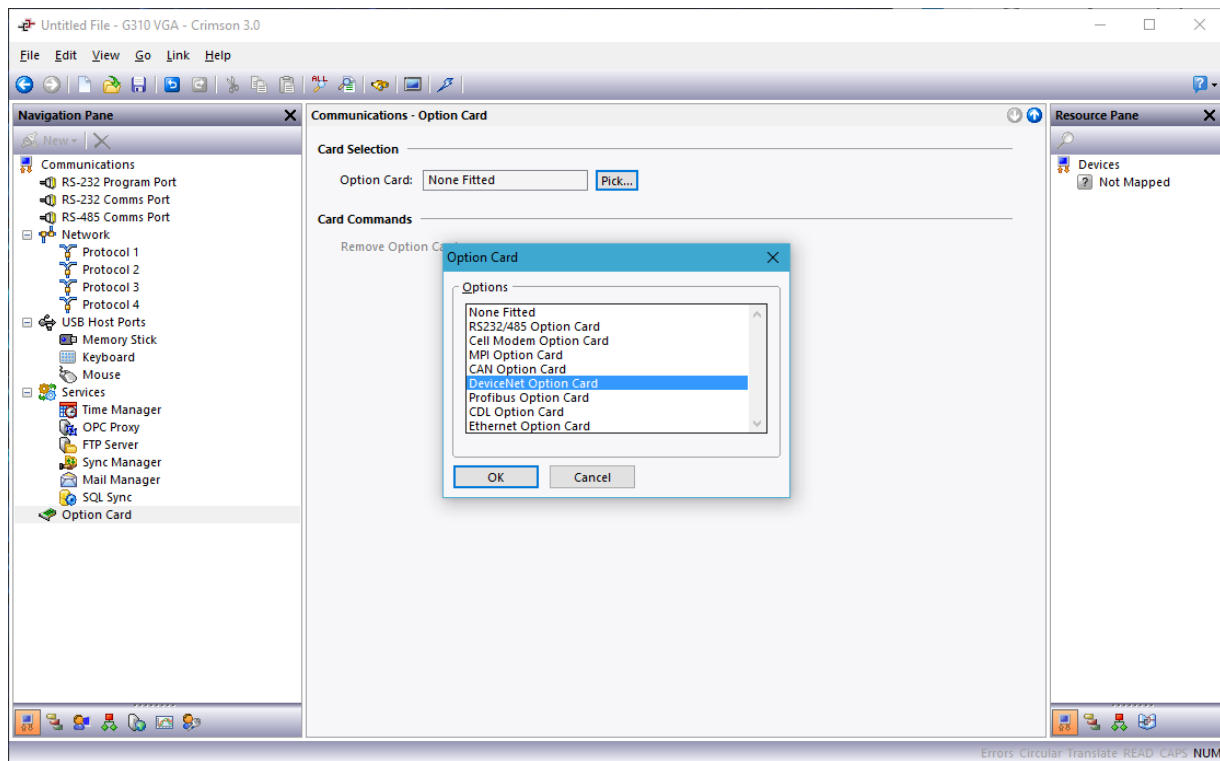
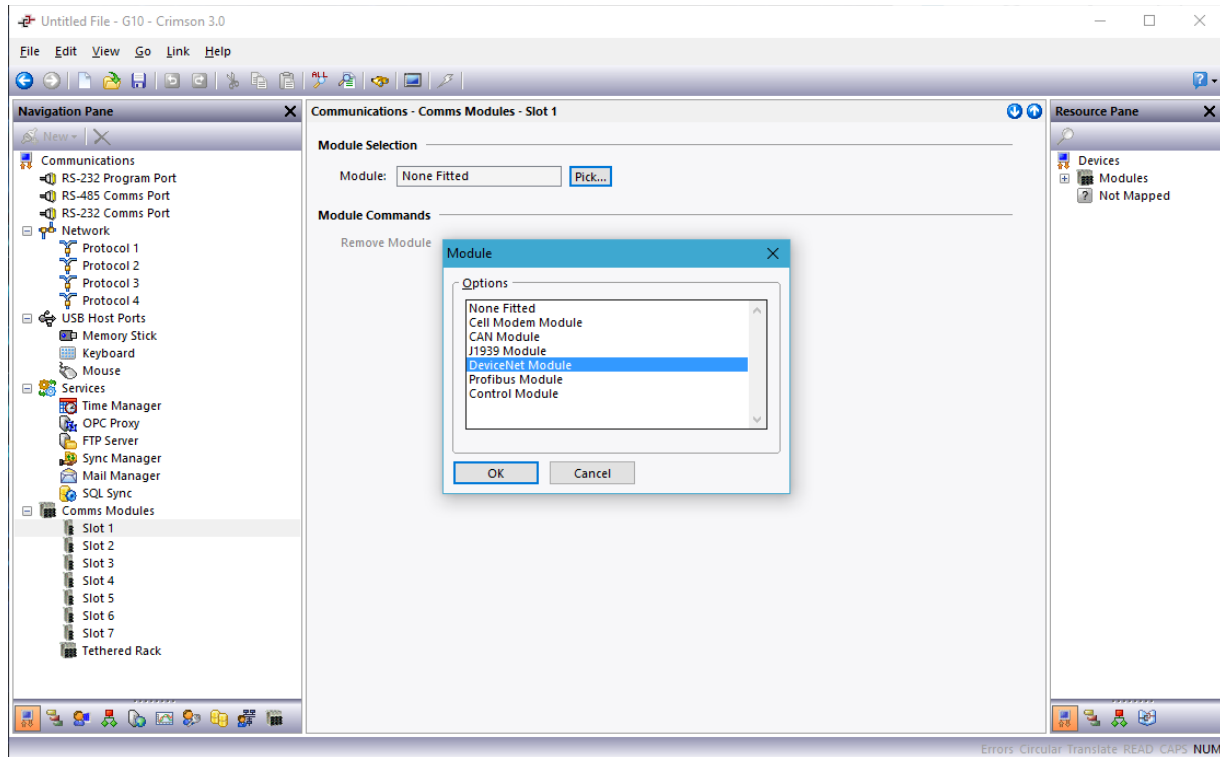
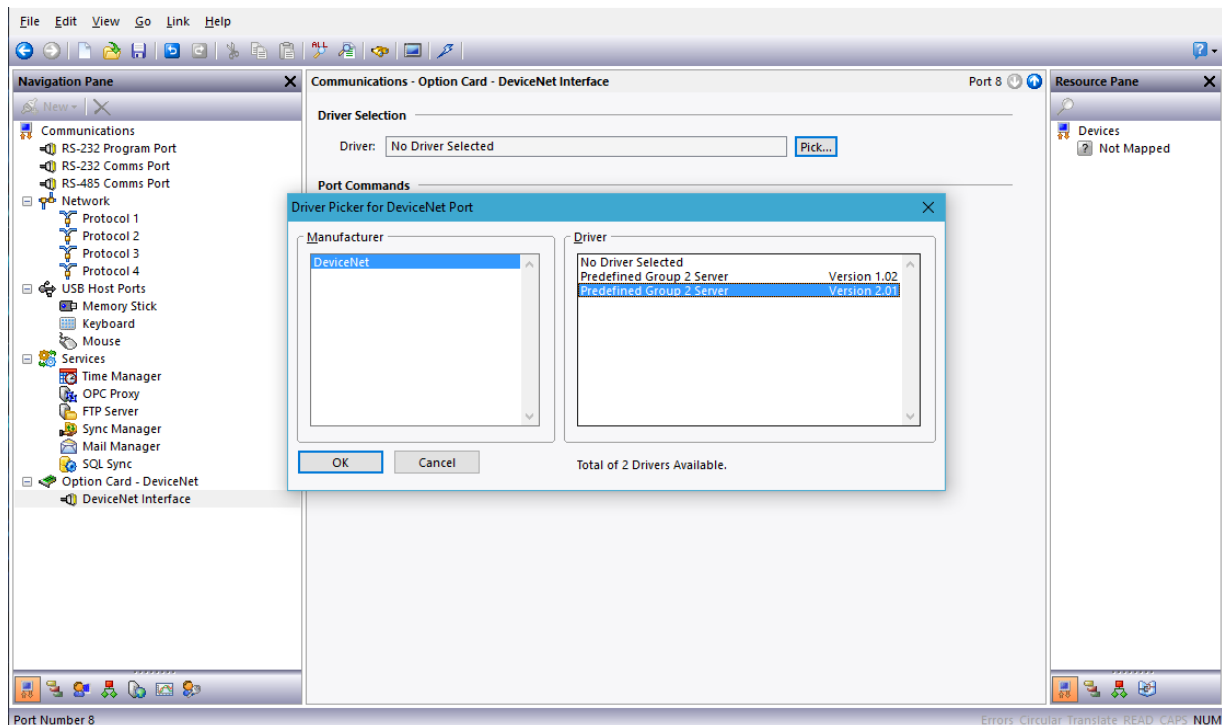

Figure 2.
Figure 3.
Figure 4.
4. **If configuring a DeviceNet Option Card:** Refer to Figure 2 and go to the Navigation Pane and select *Option Card*; the Communications - Option Card popup appears. Select the *Pick* button; the Option Card popup appears. Select *DeviceNet Option Card* from the Options list and click the *OK* button; Figure 4 appears and DeviceNet Option Card is appended at the end of the tree shown in the Navigation Pane.
**If configuring a DeviceNet Module:** Refer to Figure 3 and go to the Navigation Pane and select *Slot 1*; the Communications - Comms Modules - Slot 1 popup appears. Under Module Selection, click on the *Pick* button; the Module popup appears. Select *DeviceNet Module* from the Options list and click the *OK* button; Figure 4 appears.
1. Referring to Figure 4, go to the Navigation Pane and select *DeviceNet Interface*; the Communications - Option Card-DeviceNet Interface popup appears.